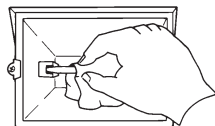

Fig. 2
3. Using a clean cloth or gloves, remove new bulb from package and protective wrap (Fig. 2).